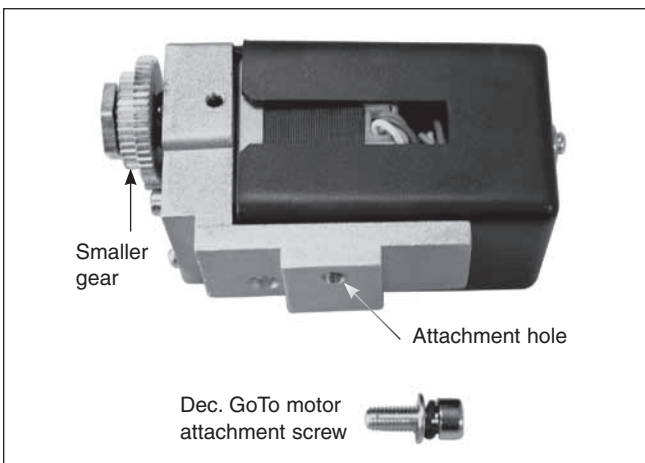
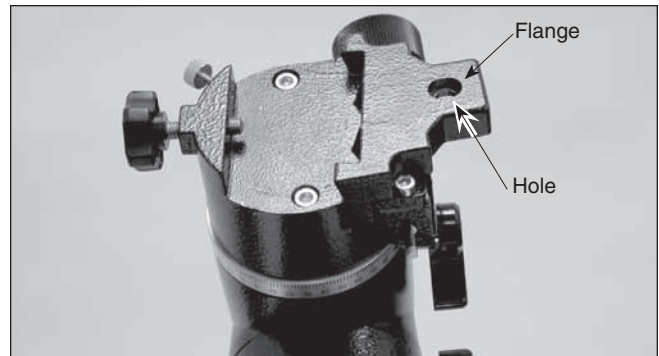
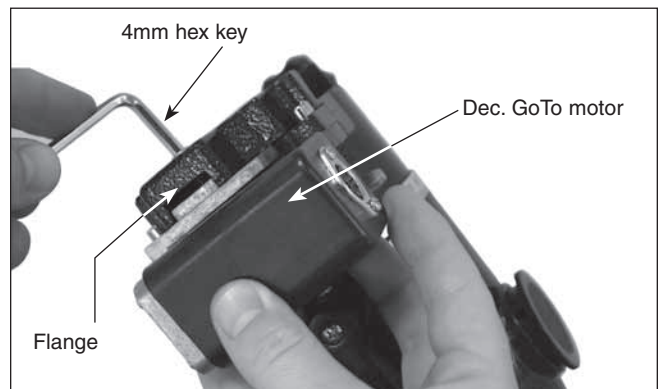

Figure 9. The Dec. GoTo motor assembly
Figure 10. The location of the flange on the mount
Figure 11. Attaching the Dec. GoTo motor
- The Dec. GoTo motor assembly is identified by its black, rectangular body (**Figure 9**). It is attached to the equatorial mount using the Dec. GoTo motor attachment screw that goes through the hole in the flange at the top of the equatorial mount (**Figure 10**). The motor assembly should be attached so that it is oriented as shown in **Figure 11**. Hold the motor assembly so that its threaded hole lines up with the hole in the top of the mount. Place the lock washer and